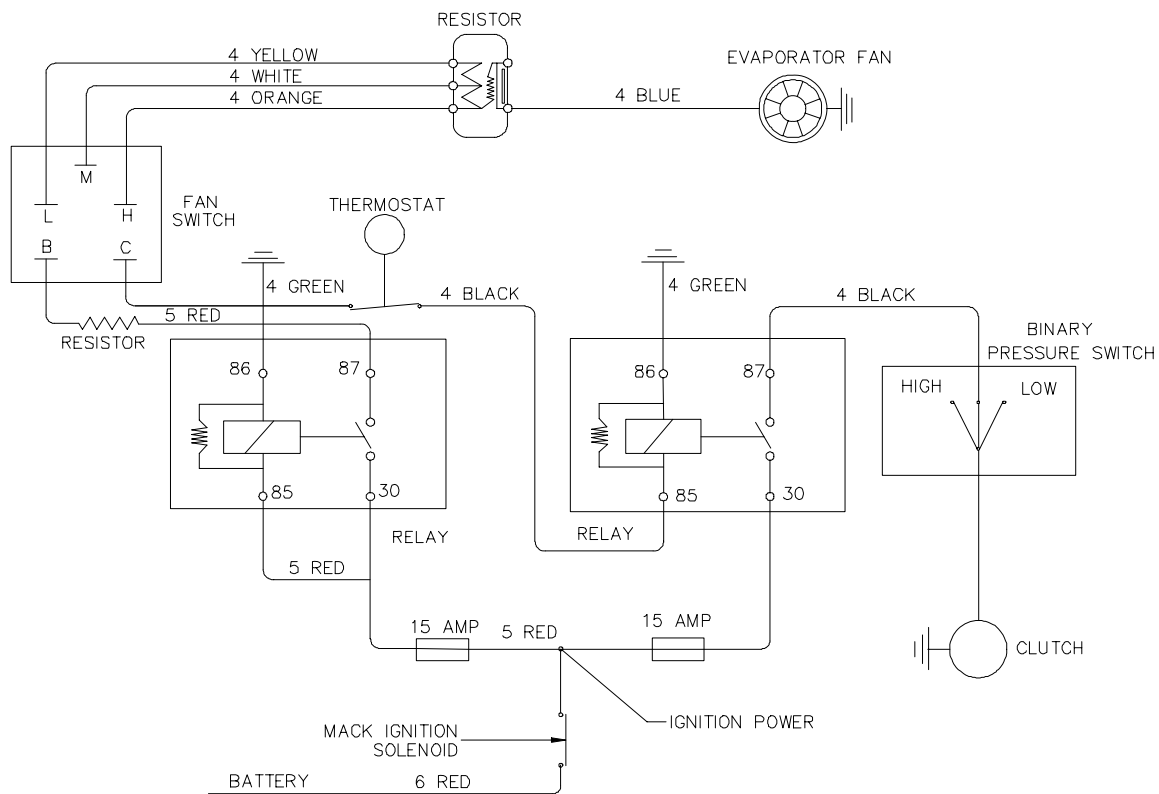

Figure 28 Air Conditioner Wiring Diagram
59. The electrical system, fed by the truck's 24 V power source, is provided to supply and control the compressor's electromagnetic clutch, the evaporator's fan, pressure switches and other components of the air conditioner system. Refer to Figure 28. The system is protected by two 15 A fuses.